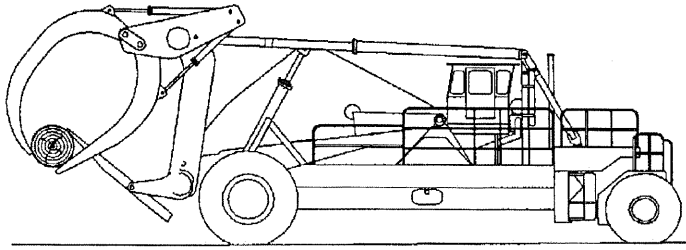

Fig 4-11
5. Fig. 4-11 shows a good example of the Lumberjack's flexibility. The log is under the tines and is held by the holddown and kickoff arms. Partial loads should be held with the hold-down and the kickoff arms.